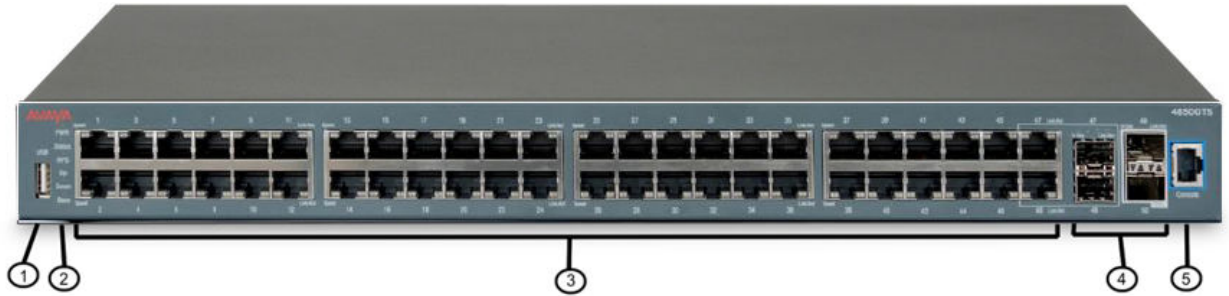

Figure 20: Avaya Ethernet Routing Switch 4850GTS
- Figure 20: Avaya Ethernet Routing Switch 4850GTS on page 57